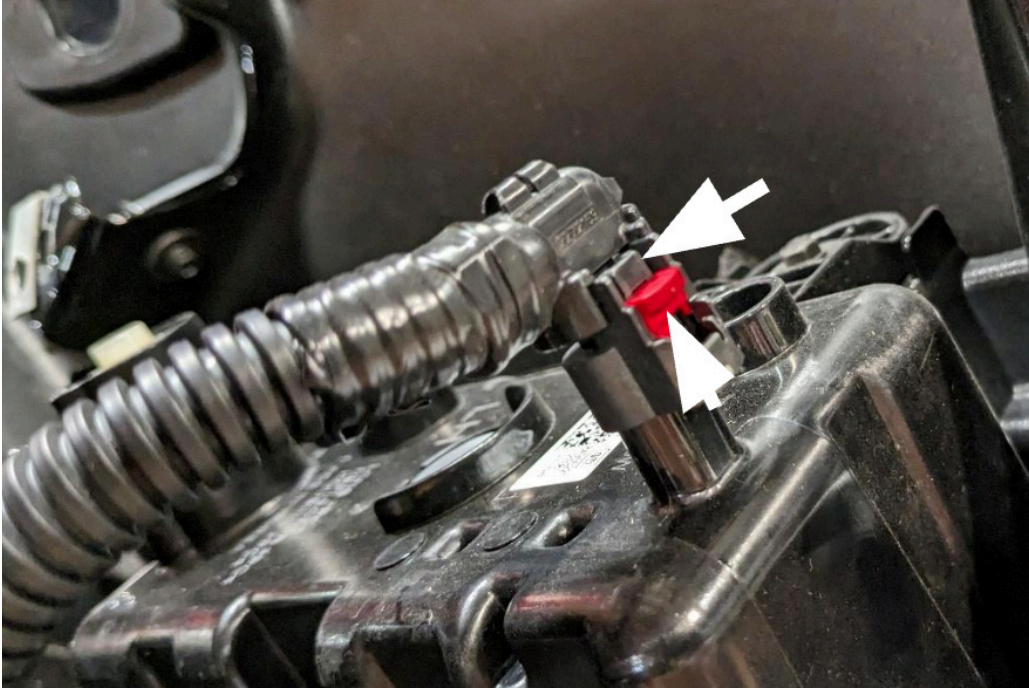

Figure 19
17. Disconnect the bumper wiring harness from each fog light. Figure 19